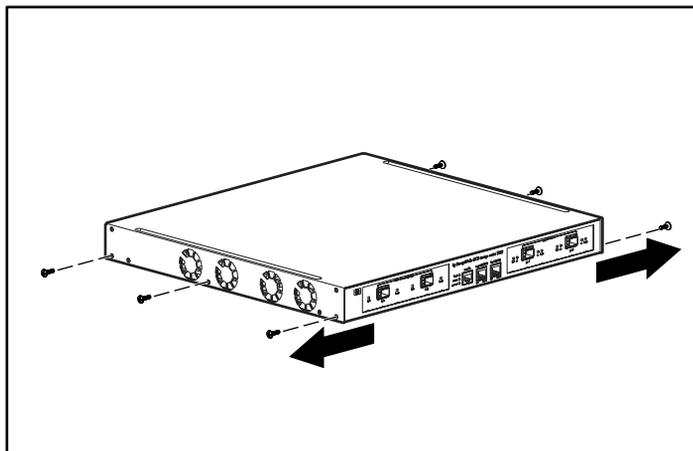

Figure 9: Removing the screws
5. Remove all existing screws (6 total) from each side of the chassis (see Figure 9).